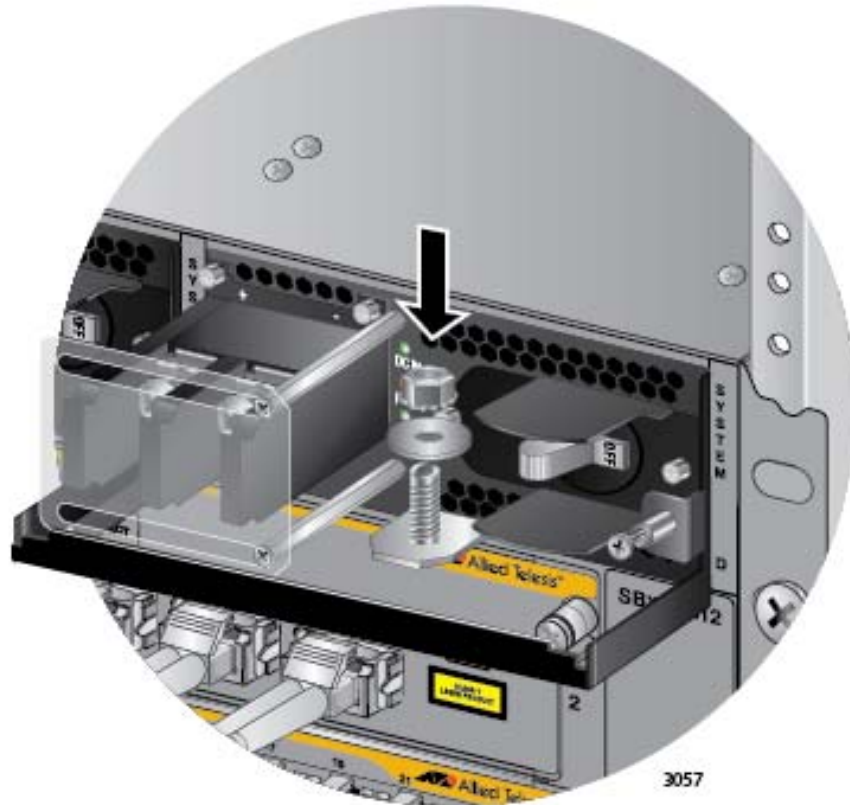

Figure 145. Reinstalling the Nut and Washer on the Grounding Post
10. Reinstall the nut and washer on the grounding post. Refer to Figure 145 on page 216.